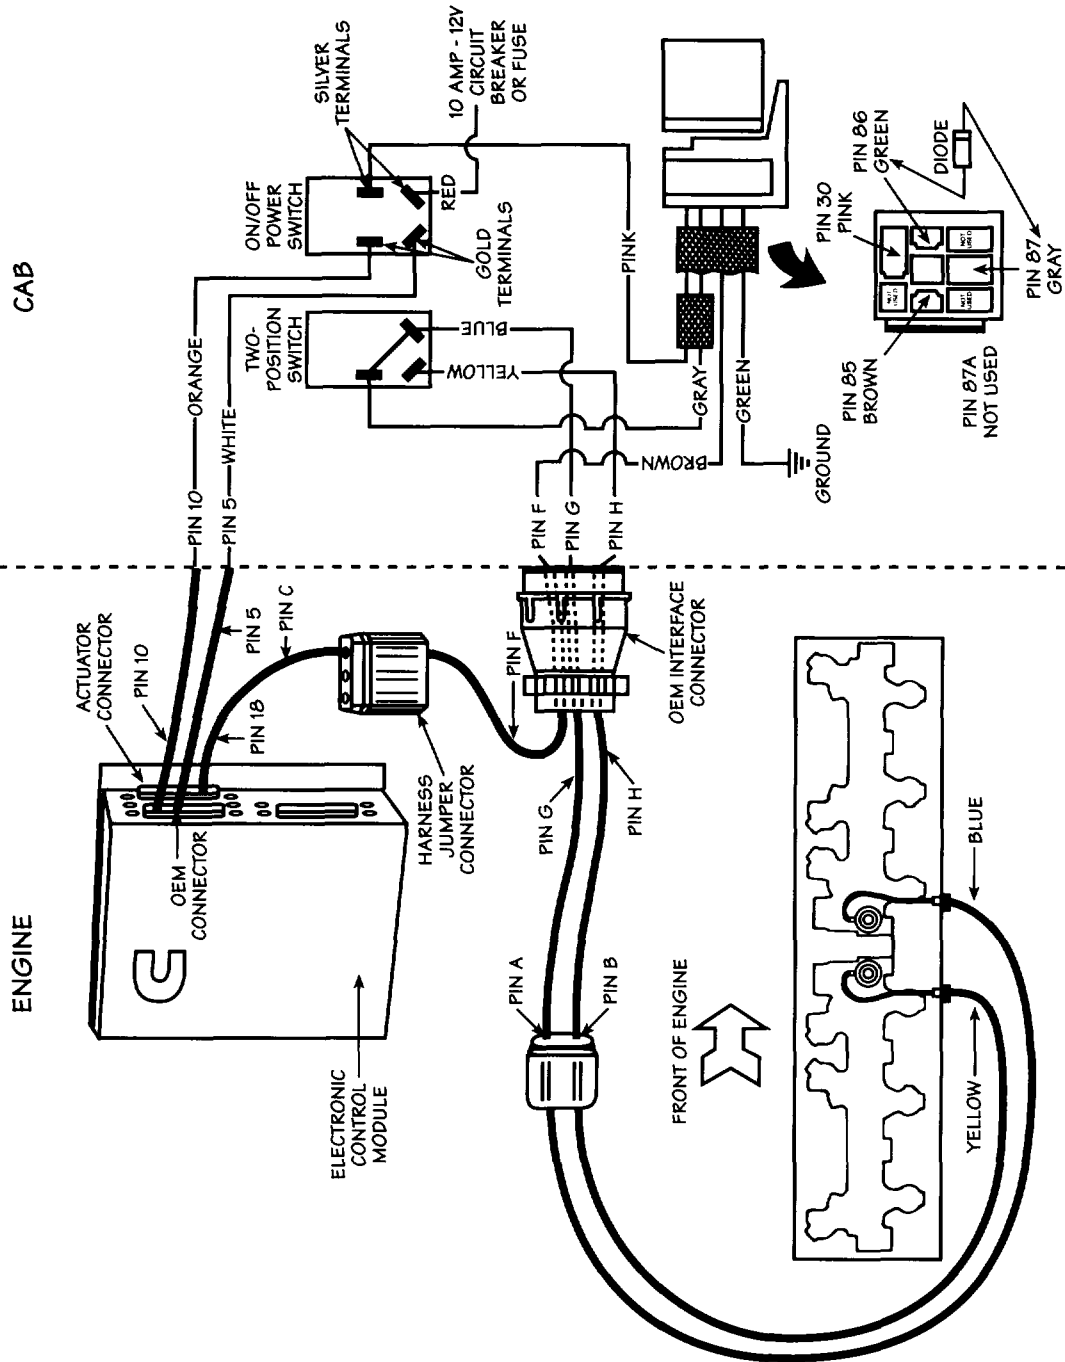

FIG. 47
017593 Harness Installation (see Fig. 47)
7. The BLUE wire should be connected from the output side of the selector switch as shown in Fig. 47, to pin "G" of the Cummins interface connector.